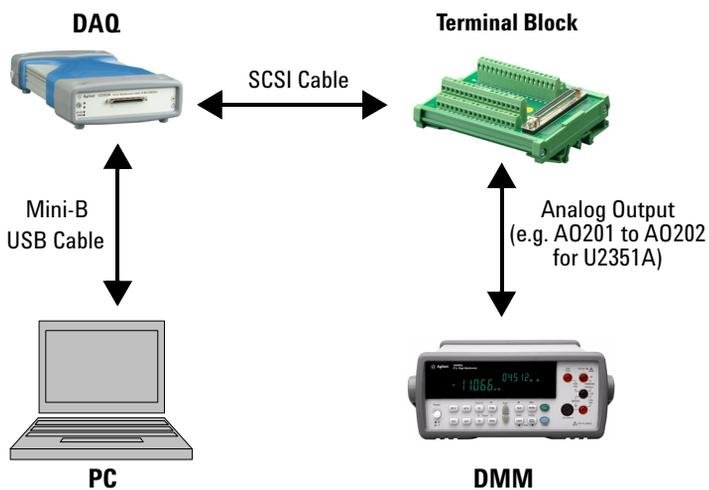

Figure 2-8 The analog output and DMM connection
- 5 Select the instrument that you would like to perform self-calibration and the **Start** button will be enabled. Click **Start** to proceed. See Figure 2-8.